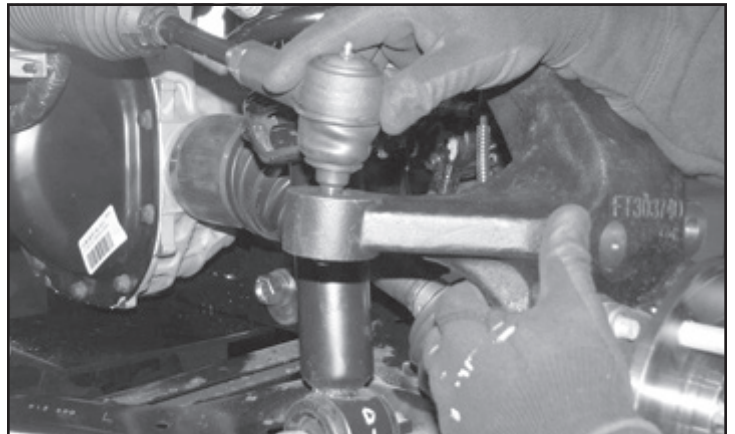

FIGURE 57 - STEP 55
55. Reconnect the tie rod end to the steering knuckle and torque to 60 ft-lbs. **SEE FIGURE 57**